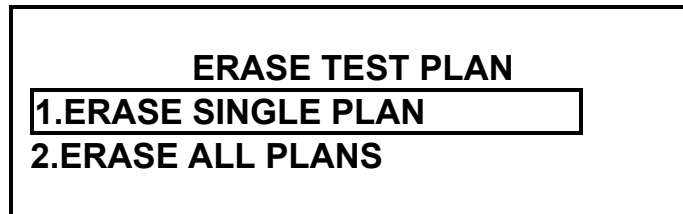

Figure 69.0 Erase Test Plan Menu
- b. **Origin:** From the “Erase Test Plan Menu” (Figure 69.0) select menu option 1.